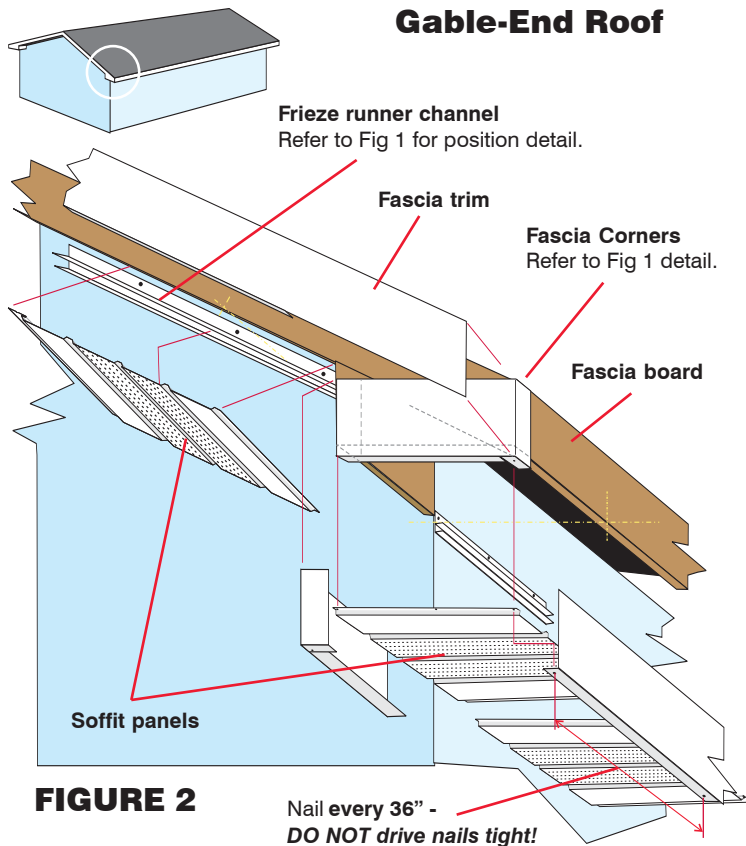

FIGURE 2
Using frieze runner channel:* (Refer to Figure 2)
- 3. FASCIA TRIM** - Beginning at corners, cut and bend to form box (see Fig 2), position up snug to underside of soffit panels, pre-drill (align with soffit grooves) and nail through bottom lip of fascia trim every 36" along bottom edge of fascia board. **NEVER 'face nail' fascia. DO NOT drive nails tight** — fascia must be 'hung', only snug to soffit, to allow expansion and help prevent distortion. Allow at least 1" overlap of fascia where lengths meet. Cover balance of gable end with fascia trim and cut to make overlap joint at peak.